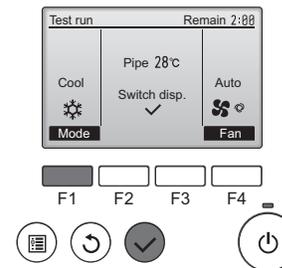

Fig. 9-3
- ① Press the [F1] button to change the operation mode. (Fig. 9-3)